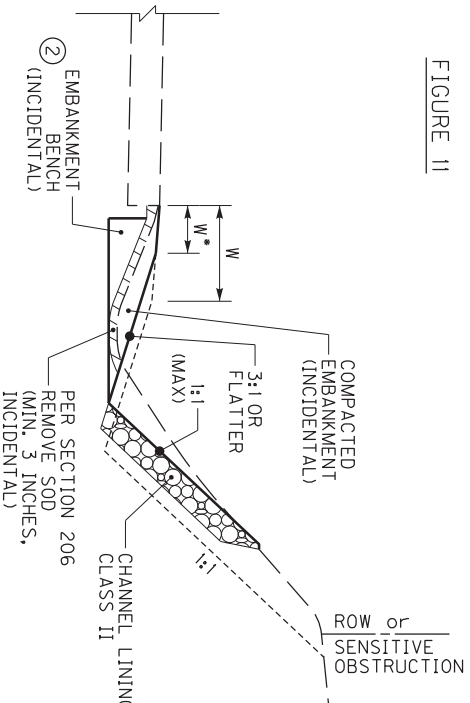

FIGURE 11
13. AS SHOWN IN FIGURE 11, IF USING A 1:1 DITCH BACKSLOPE STILL RESULTS IN THE TOP OF CUT EXTENDING BEYOND THE RIGHT-OF-WAY OR STILL IMPACTS A SENSITIVE OBSTRUCTION, THEN THE PROPOSED EARTH SHOULDER WIDTH MAY BE REDUCED SO THAT THE STEEP DITCH BACKSLOPE CAN BE INSTALLED WITHIN THE RIGHT-OF-WAY AND/OR TO AVOID A SENSITIVE OBSTRUCTION.